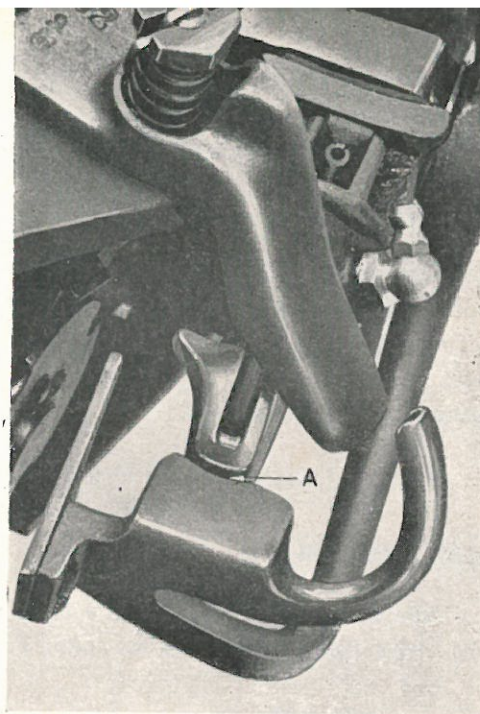

Fig. 6
The setting of this arm is vitally important, this is set at the factory and should need no further adjustment unless an obstruction has caused it to bend. The method to adopt to reset, if required, is as follows:—Remove Bolt connecting Knotters to Breast Plate, and tilt Knotter upwards. The Stripper Arm in its correct setting when it is in operation should lightly rub against the heel of the Beak at point A (Fig. 6). The stripper can be bent to obtain this setting, taking special care not to damage Knife.
- Check :* Beak tension is excessive. No rough edges on Beak, or Needle Slot on Breast Plate. Position of stripper and knife arm in relation to Beak. (Fig. 6)